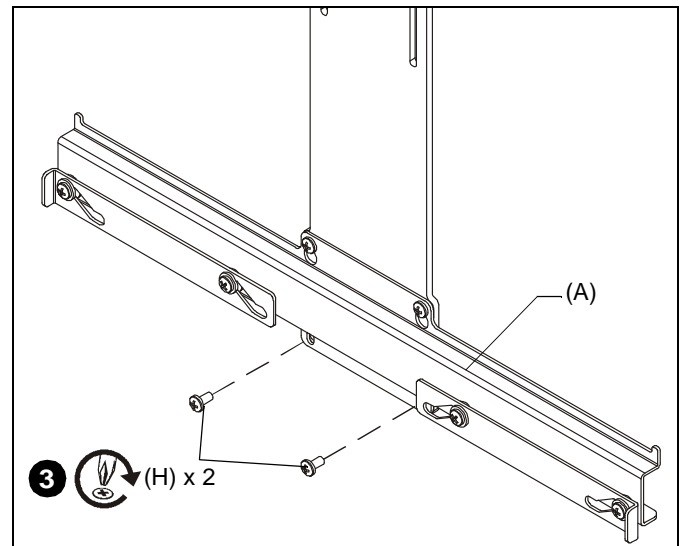

Figure 4
3. Fasten two 10-24 x 3/8" Phillips pan head screws (H) into the lower holes of center assembly (A). (See Figure 4)